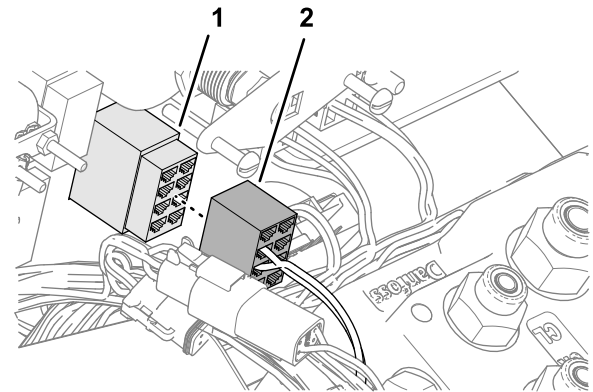

**Figure 84**
4. Remove the cap from the 4-socket connector GeoLink wire harness labeled CAN 1 ISOBUS (Figure 84).
5. Plug the 4-pin connector of the kit wire harness labeled ISOBUS CONNECTION into the 4-socket connector labeled CAN 1 ISOBUS (Figure 84).